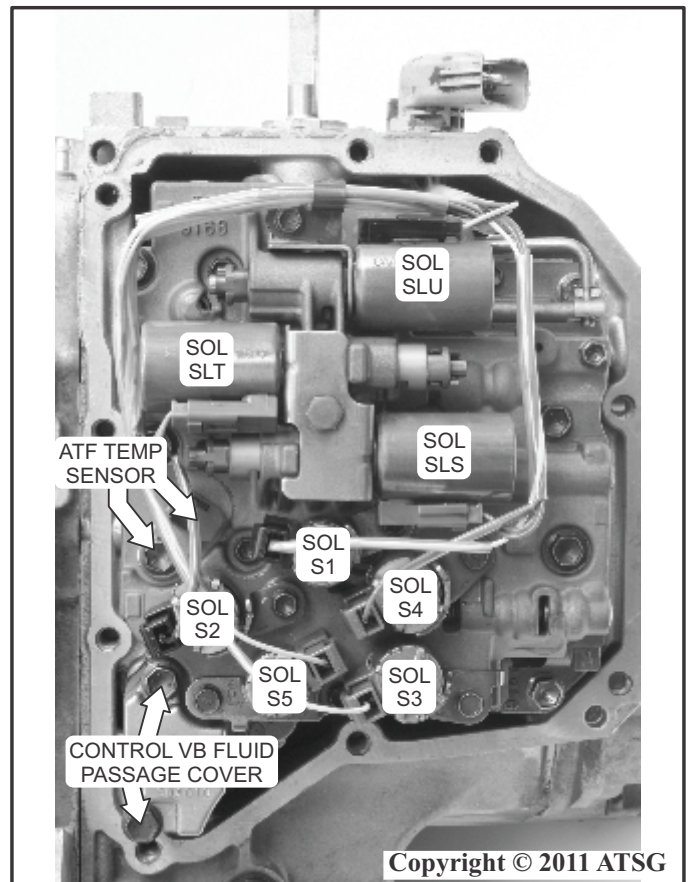

Figure 25
16. Remove the control valve body fluid passage cover attaching bolts as shown in Figure 25.
17. Remove the control valve body fluid passage cover and the control valve body fluid passage cover gasket as shown in Figure 25.
18. Carefully depress the locking tab for each of the five shift solenoids (S1, S2, S3, S4, and S5) then remove the connector from the five solenoids as shown in Figure 25.
19. Using a small screwdriver or scribe carefully depress the locking tab for each of the three linear solenoids (SLS, SLT, and SLU) then remove the connector from the three solenoids as shown in Figure 25.
20. Remove the ATF temperature sensor hold down retainer attaching bolt as shown in Figure 25.
21. Remove the ATF temperature sensor hold down retainer and gently lift the ATF temperature sensor upward with a twisting motion and carefully move the harness away from the control valve body assembly as shown in Figure 25.